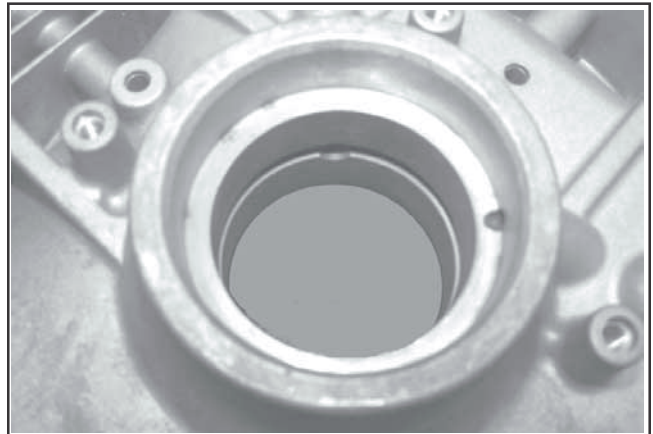

Figure 10-1. Seal Bore of Crankcase.
1. Make sure that the seal bore of the crankcase is clean and free of any nicks or burrs. See Figure 10-1.